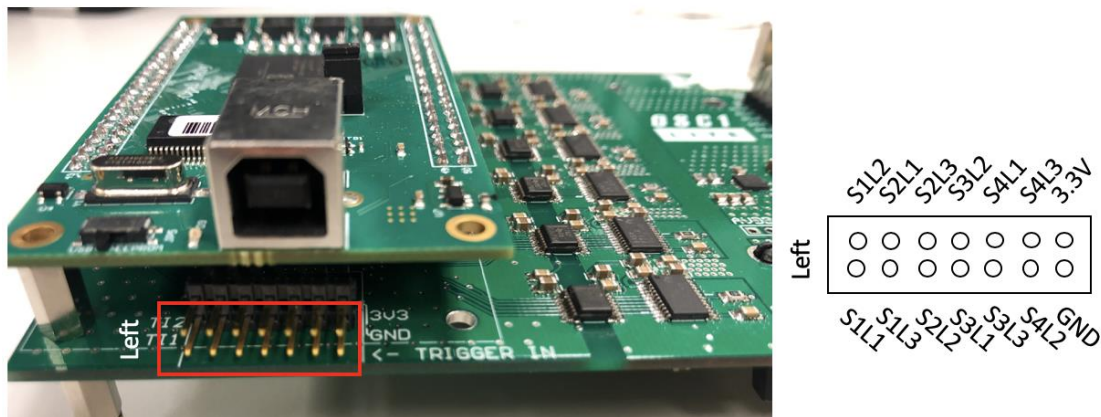

Figure 12 Trigger in pins
2. External trigger: the channel shall start stimulating whenever a TTL (3.3-5V OK) is seen on the corresponding **Trigger In** pin (see **Figure 12** below).